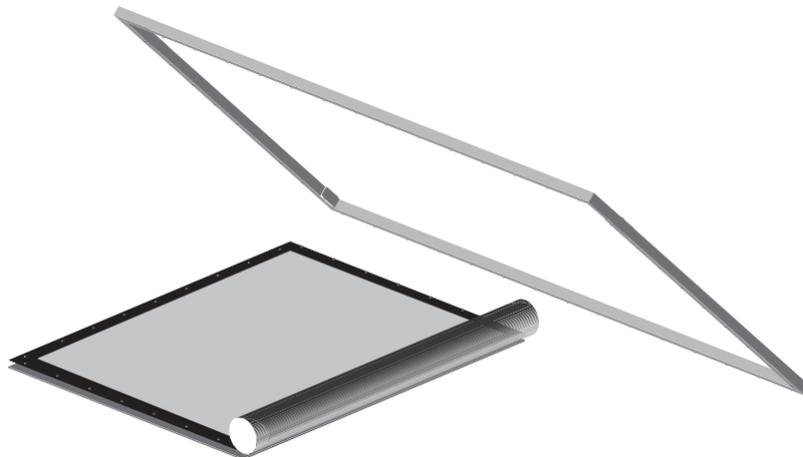

Figure 15: Unrolling the Screen
2. On a clean surface, unroll the screen **viewing side up** (see Figure 15).
4. Place the frame over the screen, snap side down (see Figure 15).